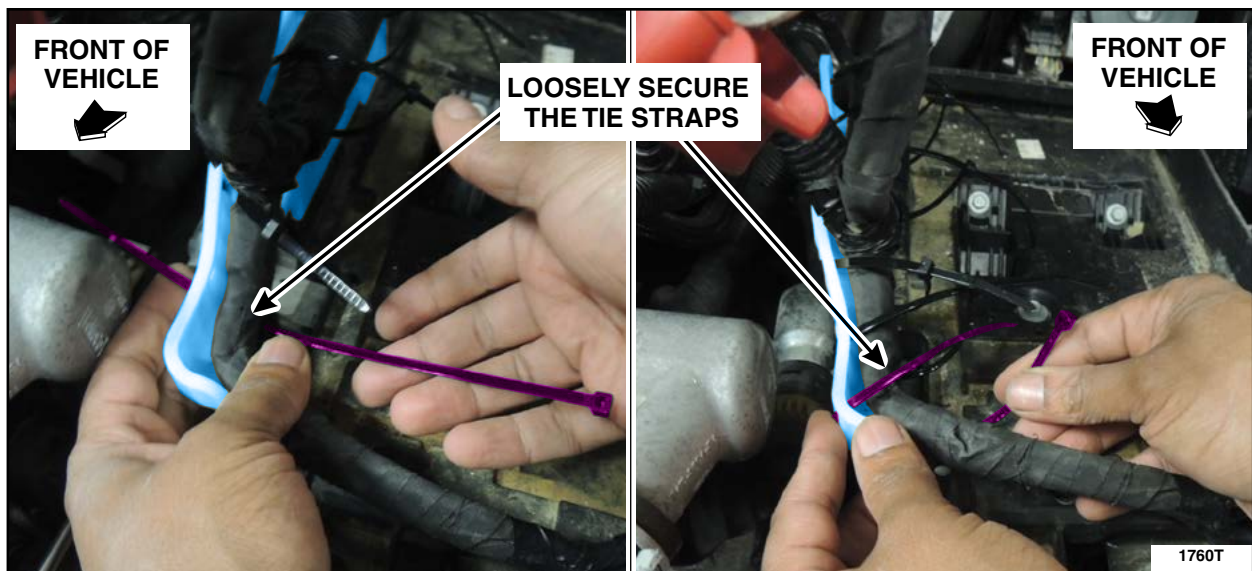

FIGURE 8
9. Route a tie strap through the front set of slots in the shield, install in the same manner as the previously installed tie straps. Loosely secure the tie straps around the battery cable wiring harness. See Figure 8.